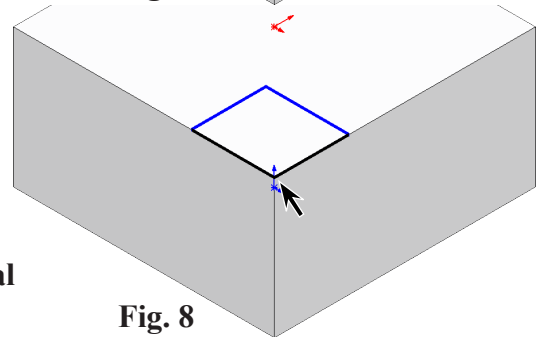

Fig. 8
Step 4. Sketch **corner rectangle front right corner vertex**, Fig. 8.